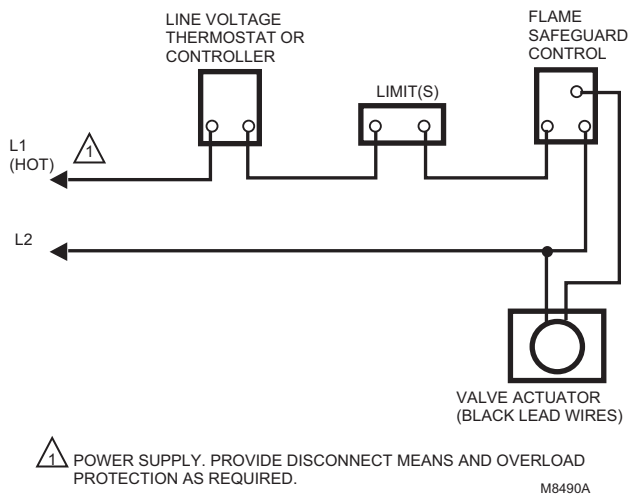

Fig. 5. Typical wiring diagram for V48.
6. Refer to Fig. 5 or 6 for typical field wiring connections. Follow the burner manufacturers wiring diagram if provided.